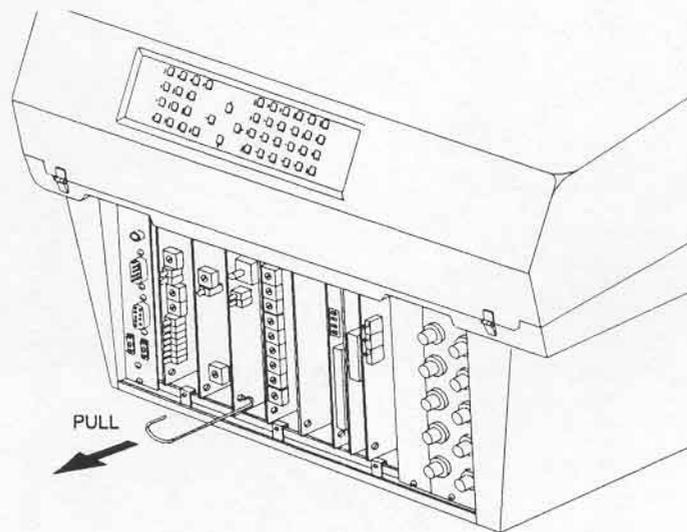

Figure 5-11. Card Rack Module Removal
- c) To remove a module from the card rack use the printed circuit board extraction tool supplied in the tool kit. Insert the hook of the extraction tool into the hole located at the top and/or bottom of the module. Pull the module from the projector. See Figure 5-11.